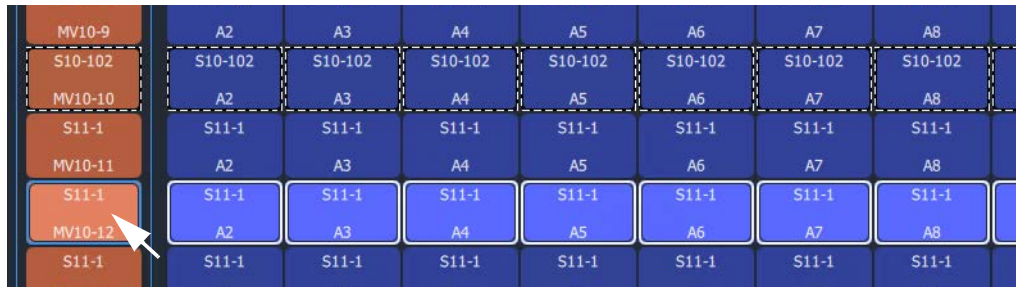

Fig. 13-84: 'Copy To' Destination Selected
- 3 Select a Destination to 'copy to'. (See Figure 13-84.)